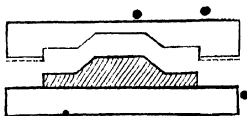

Fig. 14.—Thickness or Reverse Moulding.
*Thickness or Reverse Moulding.*—When a thin casting is required from a thick pattern, the upper half of the mould is moulded from the opposite impression, and a thin sheet of clay inserted between the two half boxes, as shown by the dotted lines in Fig. 14.